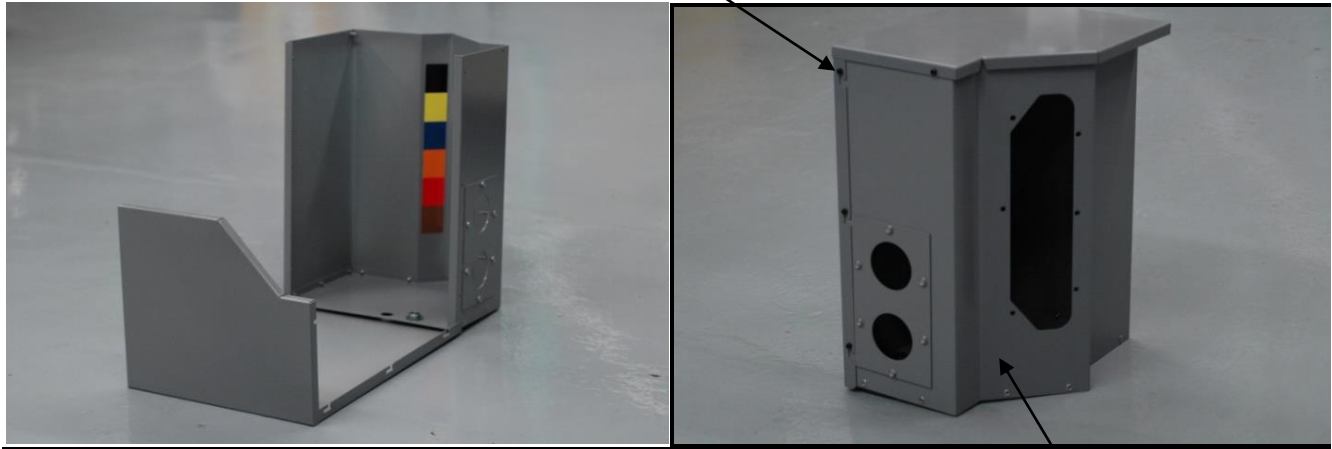

Figure 3
**Mounting hole locations (6) required. Use fastener AA06MS166, M12 x 1 Hex HD, 12mm**
**Terminal Studs (6), See Jam Nut instructions 99TA516149 for proper jam nut installation.**
Once the terminal box is installed on the compressor, the terminal box cover can be installed to enclose the compressor (6) terminal studs. Assemble the two piece terminal box 0BTB000340 (TS & TT) or 0BUB000342 (TU) with fastener 00PPN500010200A (8 places) as shown in Figure 3.
- 0BUB000342 (TU)